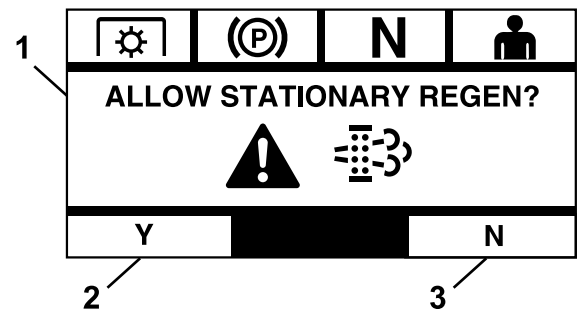

Figure 13
- If "Yes" is chosen, the module will prompt the operator to start the regen process (reference Figure 13).